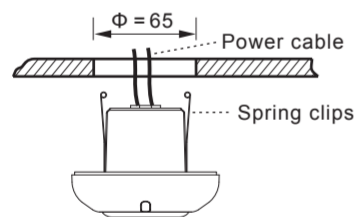

FIG.12
4.4.2.4 Close up detector's two spring clips and insert detector into the drilled hole on ceiling (See FIG.12).